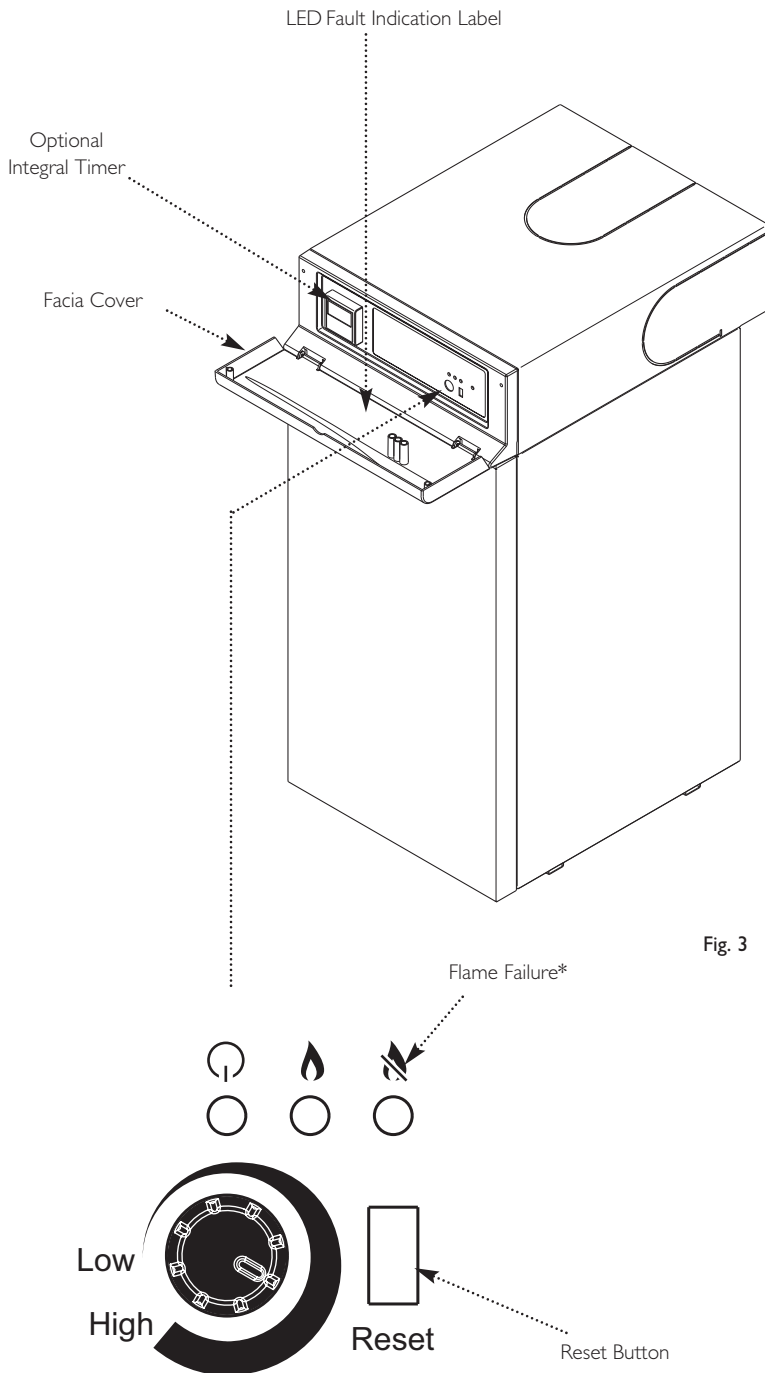

Fig. 3
2. The Flame Failure light () will be either flashing or permanently illuminated and the boiler will need resetting (Fig. 3).
3. Press the Reset Button (Fig. 3).